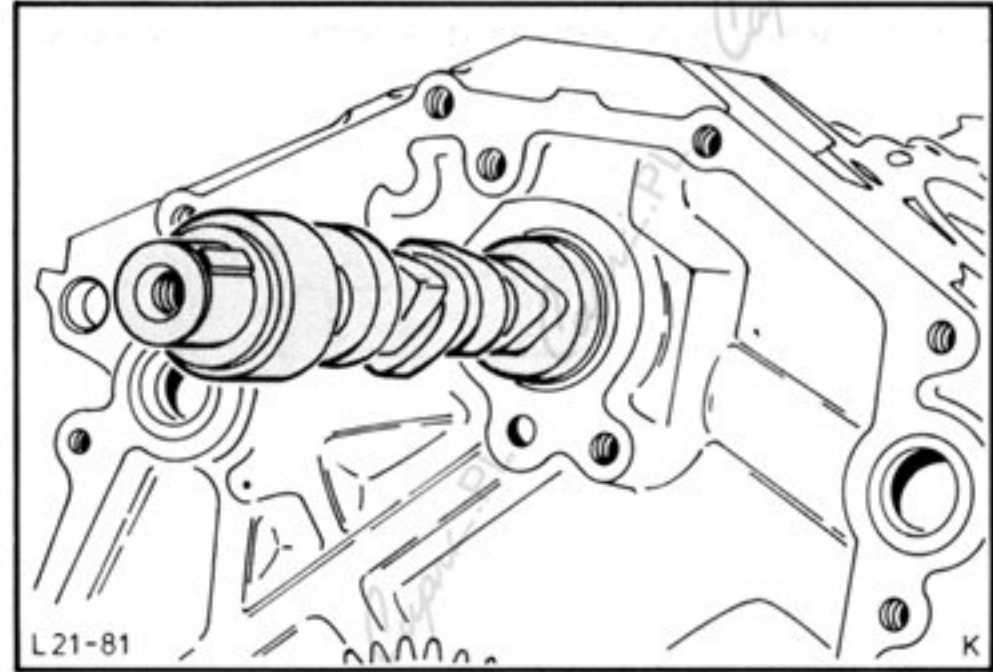

Fig.55. Fit camshaft.
42. Carefully fit camshaft from front, Fig.55. Prior to installation slide spacer onto camshaft, chamfered side first, and fit plate spring. Torque self-locking thrust bolts as specified in Technical Data.